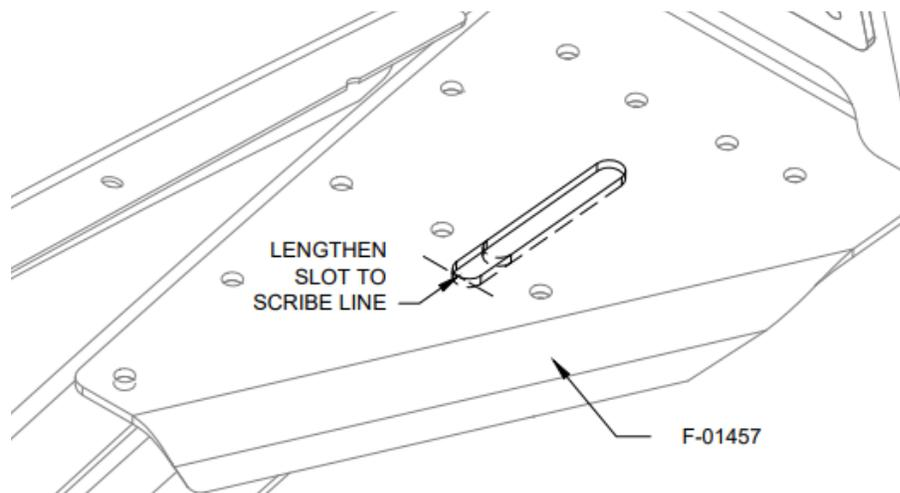

FIGURE 10: LENGTHEN BELLCRANK SLOT
Step 10: Lengthen slot to the scribe line using a Dremel cutting disc and finish with a File. See Figure 10.